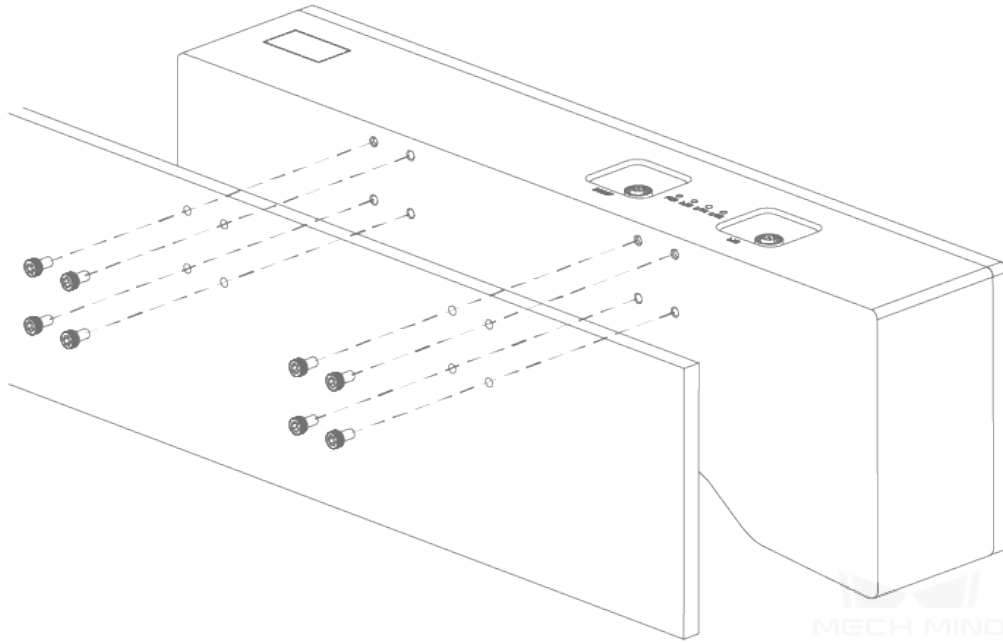

Figure 1 Mounting by threaded holes
- **Mounting by threaded holes** Use a wrench to pre-tighten the screws in a specified sequence, and then tighten all the screws, as shown in *Figure 1*.